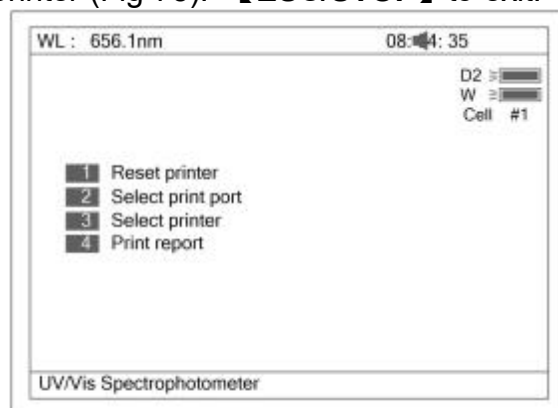
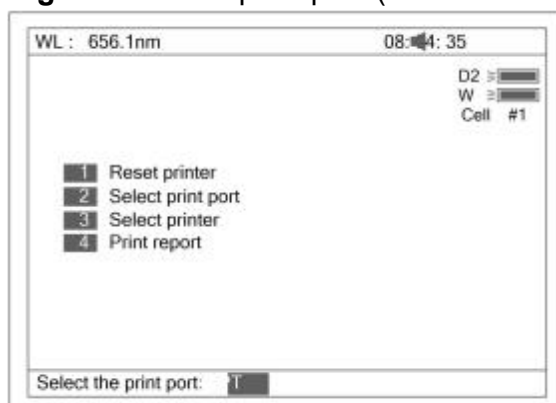
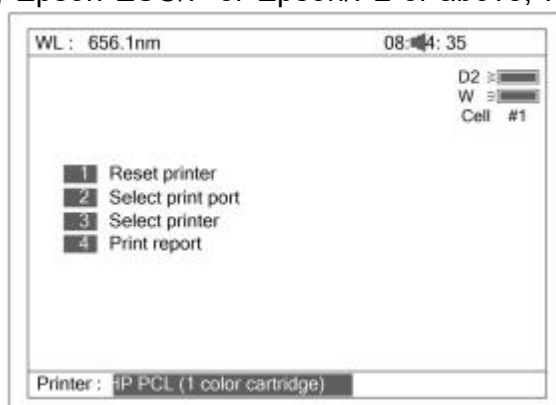
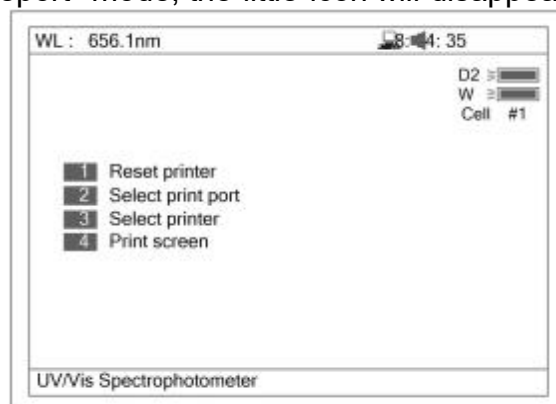

Fig 75
Fig 76
Fig 77
Fig78
Press **【2】** to set printer (Fig 75). **【ESC/STOP】** to exit.
1. Press **【1】** in **Fig 75** to Reset Printer.
2. Press **【2】** in **Fig 75** to select print port (LPT or Comm., Fig 76).
3. Press **【3】** in **Fig 75** to select printer (HP PCL (1 colour cartridge), PCL (black mode), Epson ESC/P or Epson/P2 or above, Fig77).
4. Press **【4】** in **Fig 75** to select print mode. If you select "Print screen" mode, a little icon will be displayed on the top line of the screen (Fig 78), if you select "Print report" mode, the little icon will disappear.